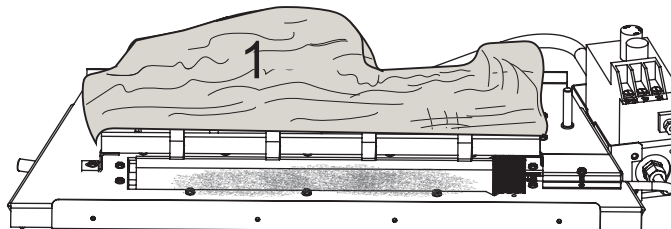

Figure 6.11 - Log #1 Placement
- Hold log #1 with the pointed end to the left. Place log #1 behind the grate by positioning the two pin locator holes on the bottom of the log over the pins behind the grate. Push the log down to make sure it rests flat over the metal base. See Figure 6.11.